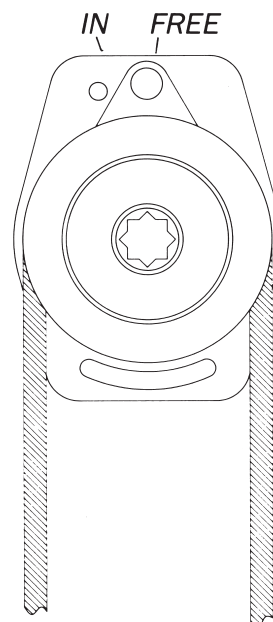

Fig. 7:2
- ☐ When reefing from the cockpit the Reefing Winch must be set to "free". (See Fig. 7:2).